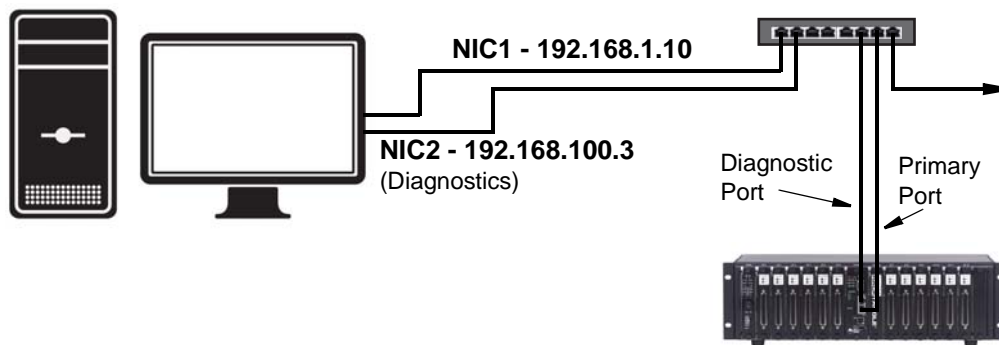

Figure 4-7. Typical Configuration for a Single DNR-X-1G with a LAN Switch
STEP 7: The system should now be configured as shown in **Figure 4-7**.